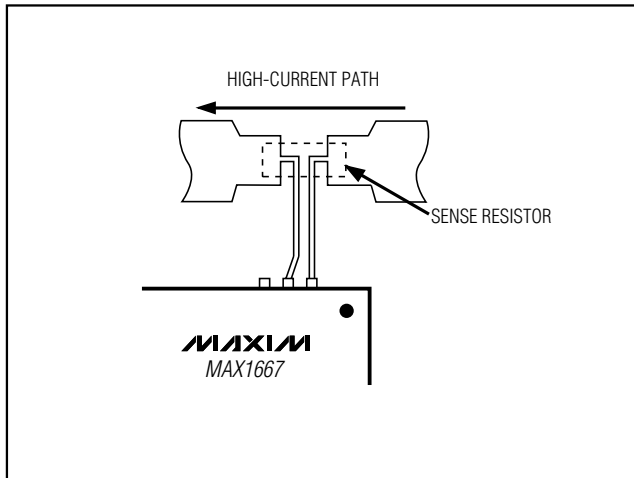

Figure 12. Kelvin Connections for the Current-Sense Resistors
- Minimize current-sense resistor trace lengths and ensure accurate current sensing with Kelvin connections (Figure 12).